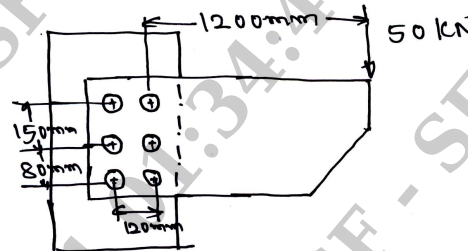

Fig.Q7(b)
b. Determine the diameter of rivet for the joint shown in Fig.Q7(b). The allowable stress in the rivets is 100 N/mm2.